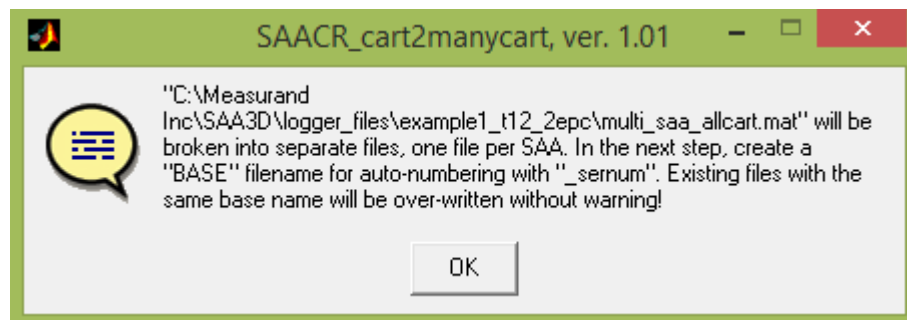

Figure A- 22: The pop-up window explaining the next step.
3. A notice will appear (see **Figure A- 22**) describing the next step.